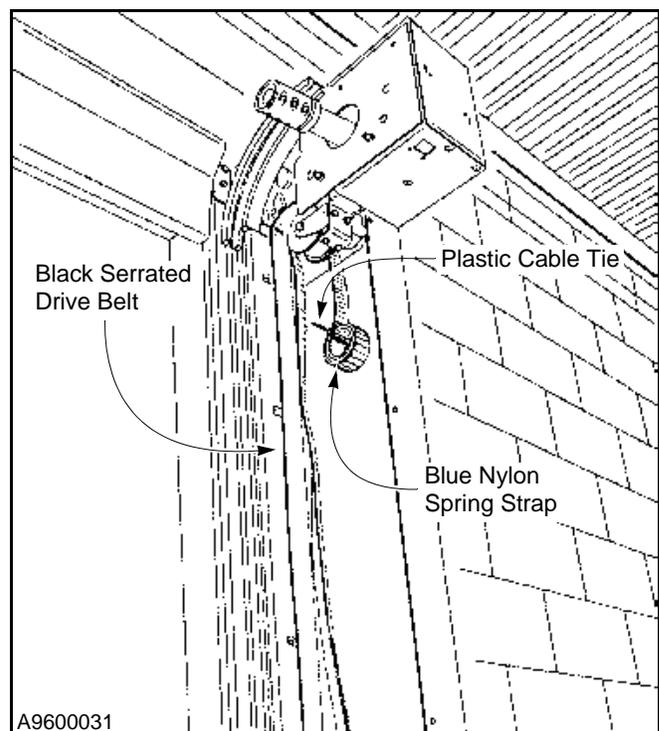

Figure 33
1. Locate the blue nylon spring strap on the end of the drive shaft. To lower the strap through the side column, first carefully cut the plastic cable tie securing the strap to the drive assembly. (See Figure 33.)